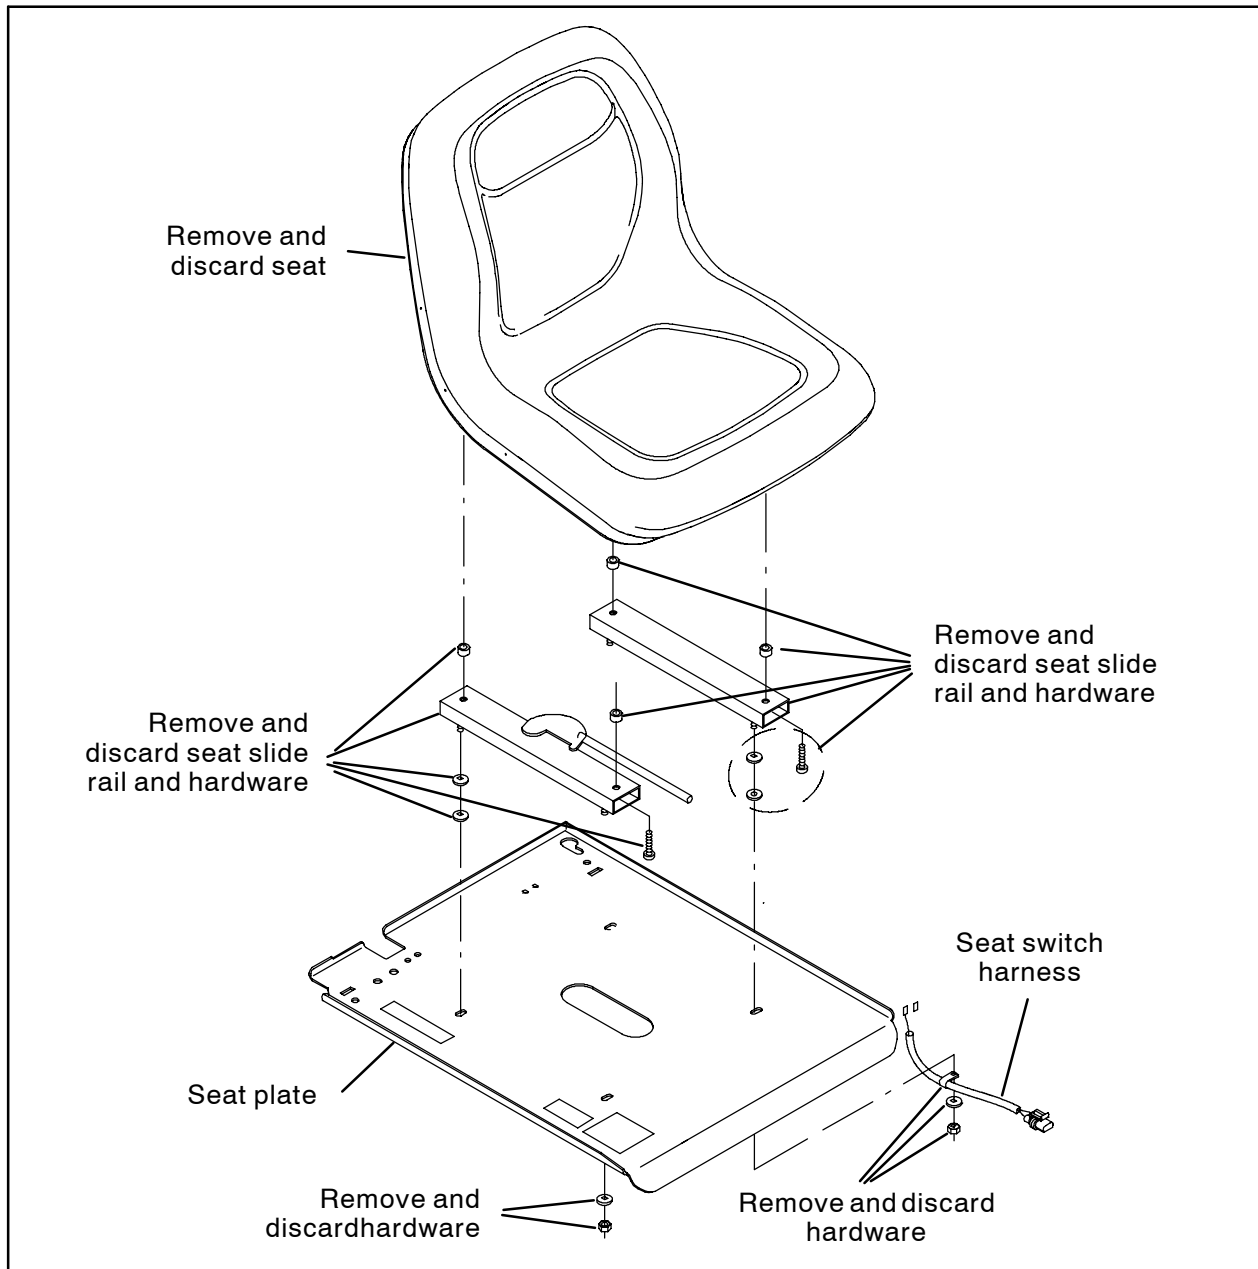

FIG. 1
1. Remove the existing seat assembly from the machine. Set the seat switch harness aside. Discard the removed seat and all mounting brackets and hardware. Refer to Fig. 1.